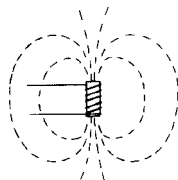
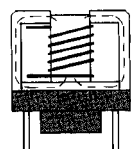

Figure 1
Figure 2
The quality and characteristics of the magnetic field generated in a variable inductor is determined by the quality and shape of the magnetic core materials, and by the characteristics of the winding. A cylindrical core in the center of a spring wound wire coil form will create a magnetic field with invisible lines of flux represented by Figure 1. The construction of the Shielded Coil Form traps and channels a majority of the magnetic lines of flux within a magnetic path-way created by the cup, increasing the efficiency and performance of the assembly as represented by Figure 2. The more complete the magnetic pathway along the magnetic lines of flux, the higher the inductance and the quality (Q) of the assembly. Some magnetic flux will escape the core material enclosure, but will be contained by the copper or brass (tin plated) shield can that covers the assembly.